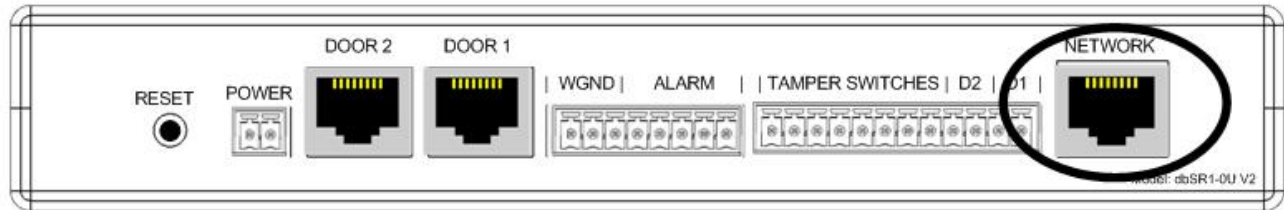

Figure 13
- Use the other supplied CAT5 cable to connect the Control Unit to a Network. Connect the CAT5 cable to the port labeled "NETWORK" on the back of the Control Unit as shown in Figure 13.